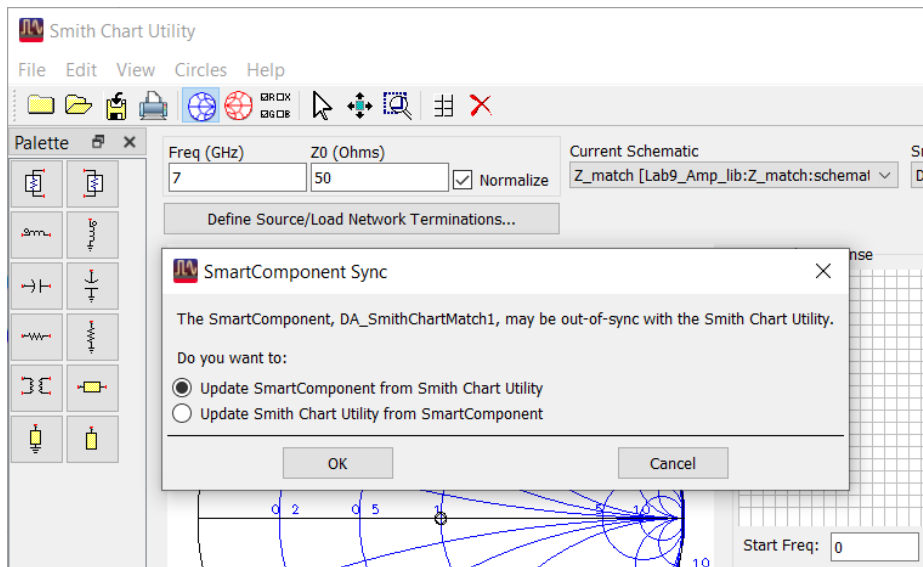

Figure 20. SmartComponent Sync message
5. Switch back to the Smith Chart Utility. Change the frequency **7.0 GHz**. When prompted, **select Update SmartComponent** from Smith Chart Utility, and click **OK**. This is shown in Figure 20.